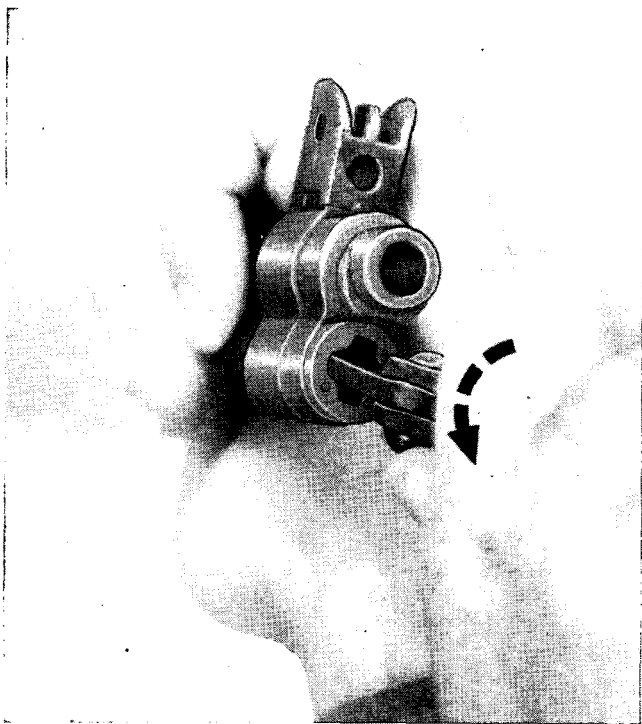
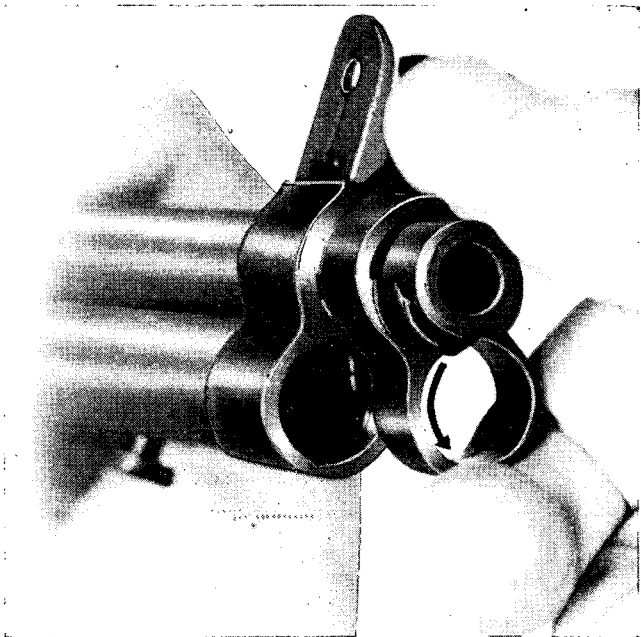

Figure 27. Removing the gas cylinder lock screw with valve assembly.
Figure 28. Removing the gas cylinder lock.
a. Using the screw driver blade of your combination tool, unscrew and remove the gas cylinder lock screw (fig. 27) with valve assembly. If you are supervised, you may now unscrew and remove the gas cylinder lock (fig. 28).